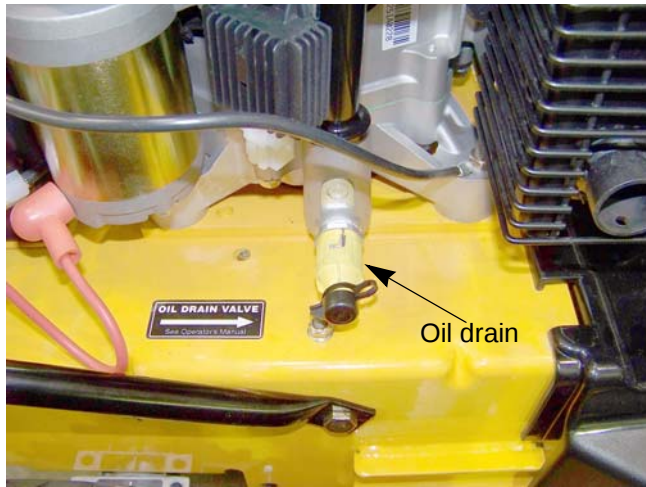

Figure 1.5
1. Remove the cap from the oil drain. See Figure 1.5.